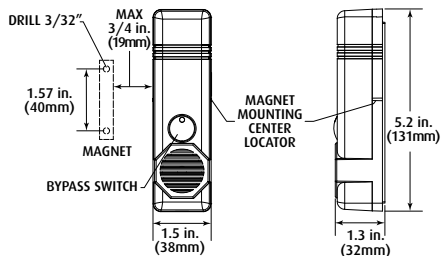

FIG. 3
- Plan installation so the magnet center can be mounted within $\frac{3}{4}$ inch, or less of the magnet center locator mark on the Pool Alert housing (Fig. 3).
Magnet Mounting (Fig. 3)